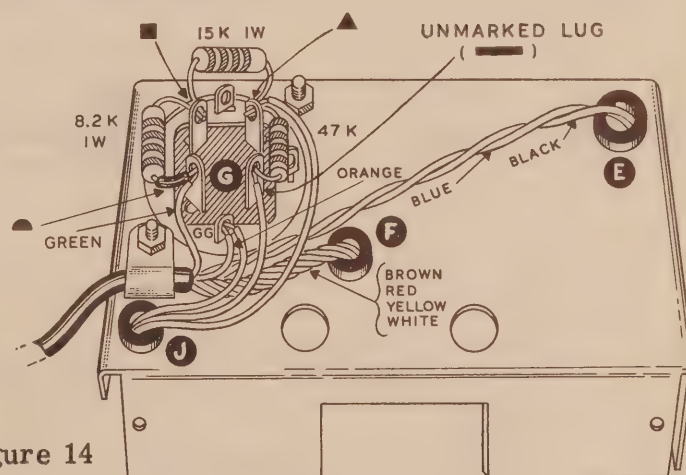

Figure 14
- (✓) 53. Select the left end-bracket, the aluminum piece flanged on three sides, as sketched in Figure 14. Mount the condenser mounting wafer using the long 6-32 machine screws. Add a plastic cable clamp on the one mounting screw as shown. Do not tighten this screw at this time.
- (✓) 54. Now mount the filter condenser, the large aluminum can with the insulating insert at one end. Observe that adjacent to each terminal an identifying symbol has been punched in this insert. Orient the terminals so they correspond with Figure 14 and insert the flat mounting lugs through the slots in the wafer. Now twist each of the four mounting lugs about 1/8 turn with long nose pliers. Hold the condenser can firmly against the wafer while this is done. The twisted lugs will securely mount the filter condenser to the wafer.